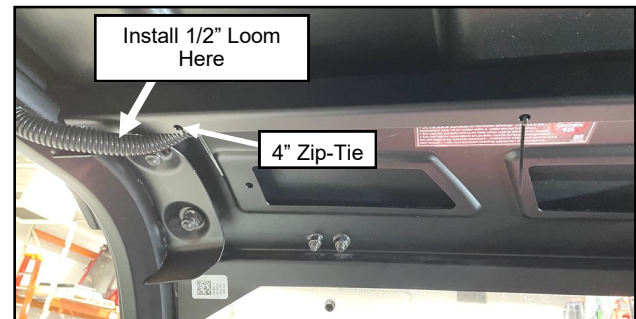

Fig. 1.12a (Connect Push-On Terminals, Left ROPS)
- 1.12** Per figures 1.12a & b, connect the two black wires and then the white to red wires. Cover the push-on terminals and wires using the provided 1/2" loom (taping loom in place) and zip-tying loom to windshield mount. Next, remove the center (3) pin connector on the vehicle buss bar and connect the Wiper Power Harness to the buss bar.